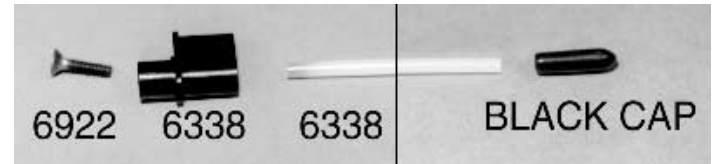

Fig. 179
□ **Figs. 179, 180 & 181** We can now install the radio receiver. In the master bag you will find the plastic antenna tube. Attached to the tube you will find a small bag containing the #6338 antenna mount, one #6922 4-40 x 1/2" FHSScrew and the black antenna tube cap (see fig. 179). Before we mount the receiver we need to assemble and install the antenna mount. Take one end of the antenna tube and push it into the antenna mount. Cut the antenna tube so that it is about 15 inches long.